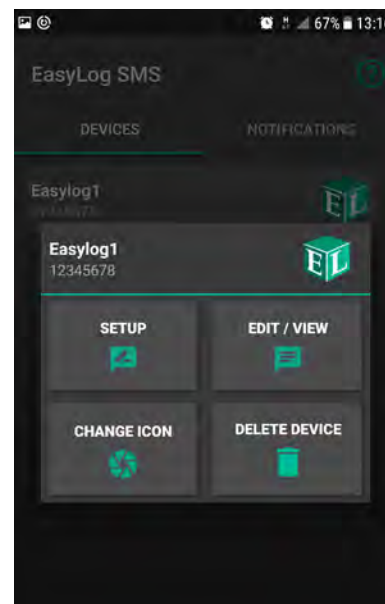

Fig. 4
5. To configure the device, tap the device name in the list to bring up the options menu (See Fig. 4).